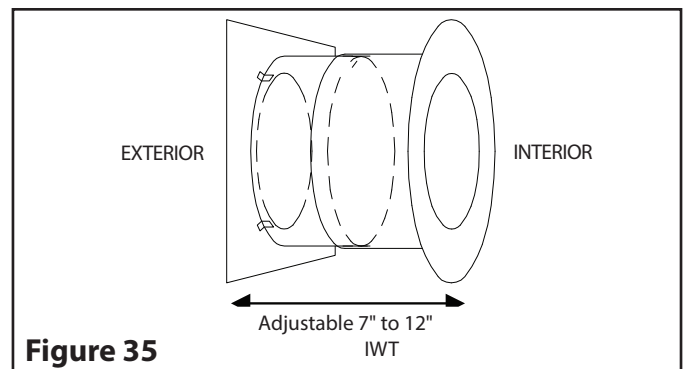

Figure 35
Step 2. Wood walls: Place the exterior half of the Insulated Wall Thimble (IWT) in the opening from the outside. Nail in place using (4) 2" nails or 1" screws. This Wall Thimble is adjustable from 7" to 12" (see **Figure 35**). Make sure the insulation pad is cut to the desired length according to the wall thickness. Place the interior half of the Wall Thimble inside the exterior half of the Wall Thimble. For a wall requiring more than 12", a shield extension can be field fabricated using galvanized sheet metal 26 gauge minimum.